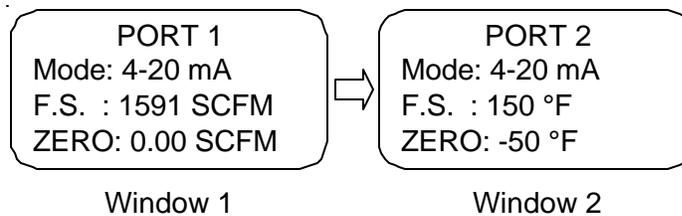

Figure 18 - Analog Output Verification
2. Press 6, the Ports option. The two screens in Figure 18 are identical except for the port number. Line 2 is the current signal output mode. Line 3 shows the full scale flow rate or temperature value and the appropriate units. Line 4 is the zero value. Press any key for screen 2.